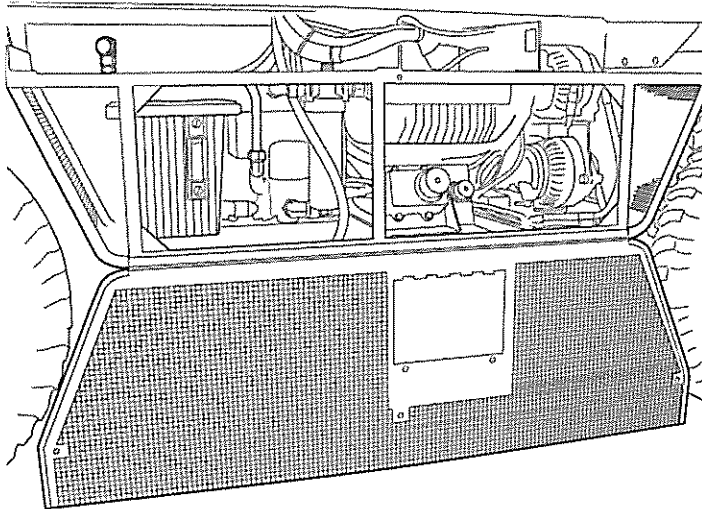

Fig 1 Hydraulic module access - side
9.2 Remove and retain the bolts securing the hinged side of the hydraulic module and lower the side (see Fig 1).